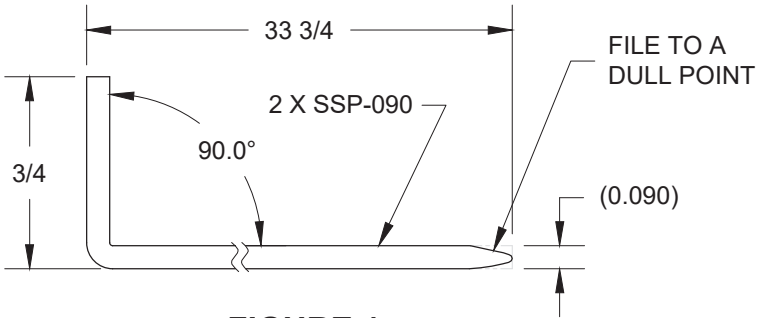

FIGURE 1:
Step 1: Retrieve the hinge pin that was set aside on Page 8-3, Step 5. Fabricate two hinge pins per the dimensions given in Figure 1. File a dull point at one end and bend the other.